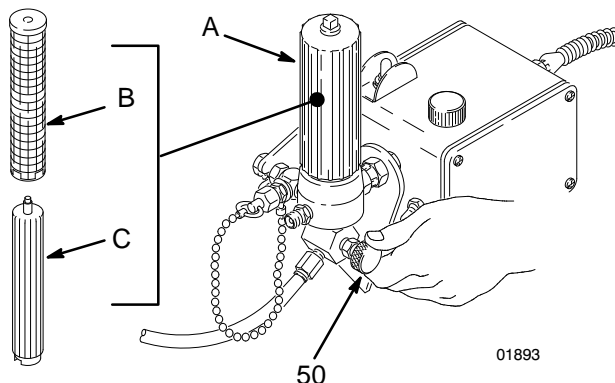

Fig. 6
2. Remove the filter bowl and screen; see manual 307-273. Clean the screen separately and install the bowl without the screen to flush it. See Fig. 6.